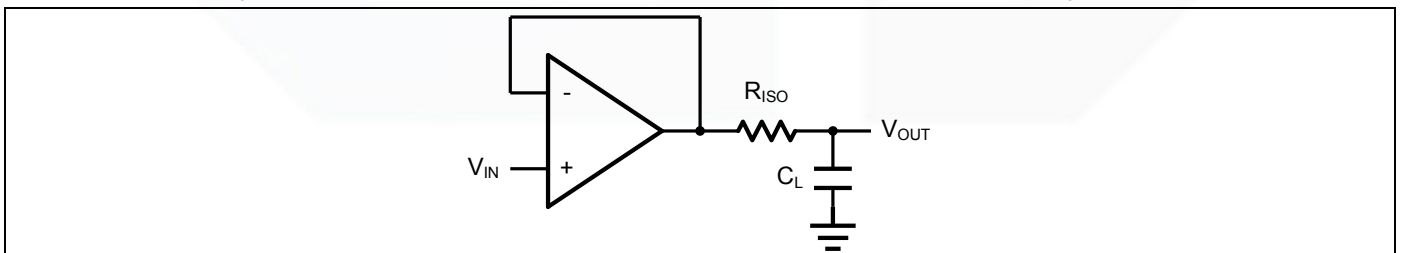
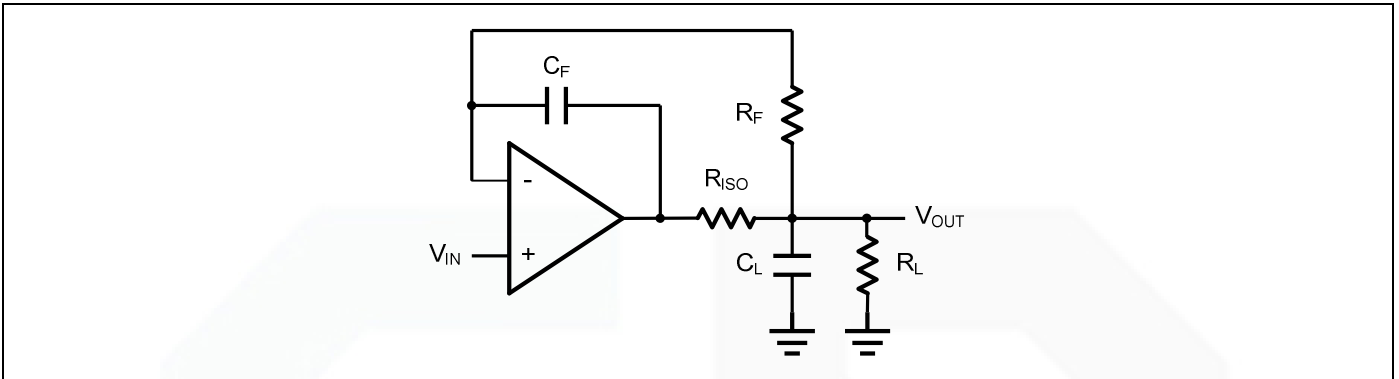

Figure 2. Indirectly Driving a Capacitive Load Using Isolation Resistor
Figure 3. Indirectly Driving a Capacitive Load with DC Accuracy
The GS805X family is optimized for bandwidth and speed, not for driving capacitive loads. Output capacitance will create a pole in the amplifier's feedback path, leading to excessive peaking and potential oscillation. If dealing with load capacitance is a requirement of the application, the two strategies to consider are (1) using a small resistor in series with the amplifier's output and the load capacitance and (2) reducing the bandwidth of the amplifier's feedback loop by increasing the overall noise gain. Figure 2. shows a unity gain follower using the series resistor strategy. The resistor isolates the output from the capacitance and, more importantly, creates a zero in the feedback path that compensates for the pole created by the output capacitance.
The circuit in Figure 3 is an improvement to the one in Figure 2.  $R_F$  provides the DC accuracy by feed-forward the  $V_{IN}$  to  $R_L$ .  $C_F$  and  $R_{ISO}$  serve to counteract the loss of phase margin by feeding the high frequency component of the output signal back to the amplifier's inverting input, thereby preserving the phase margin in the overall feedback loop. Capacitive drive can be increased by increasing the value of  $C_F$ . This in turn will slow down the pulse response.